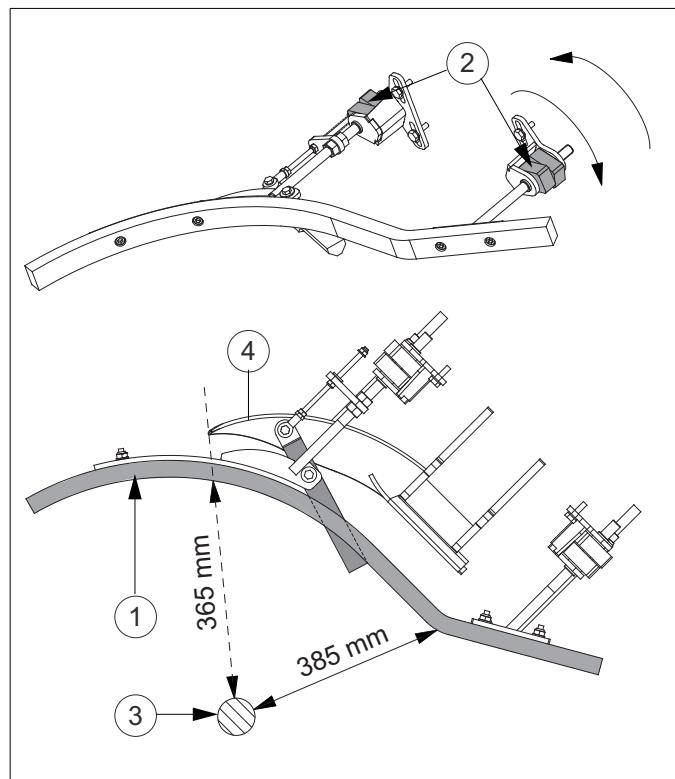

fig. 49 Hock cutter guide
2. Once locked together, turn blocks as a unit to lengthen or shorten rods to dimensions shown in fig. 49.
See fig. 49.